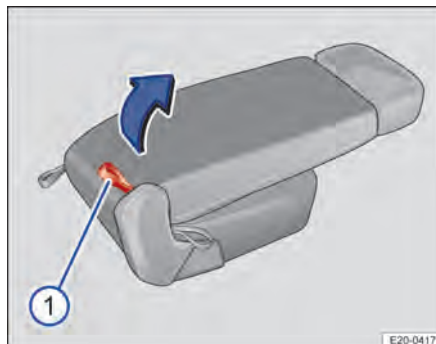

Fig. 65 Second row of seats: Fold seat forward.
2. Pull the corresponding red loop → Fig. 65 ① on the back of the seat and fold the seat forwards.